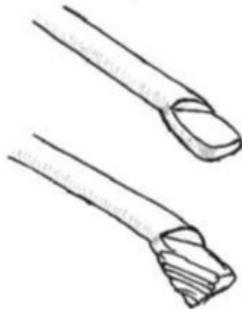

Figure 10: Drawing out the scarf
- b. Flip the link up and draw out the longer side of the scarf into a taper as seen in the bottom of figure 10.